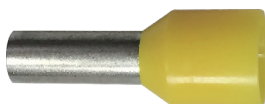

Figure 4-3 : Terminal for wire crimping
The AC wiring system diagram is shown in **Figure 4-3**. It recommended users follow the diagram connecting the AC wiring. The connection between Grid N and Load N is used to eliminate the floating voltage between Load N and PE. E5 can still works without the Grid N and Load N connection.
- Please choose the terminals as shown in **Figure 4-3** for wires crimping.